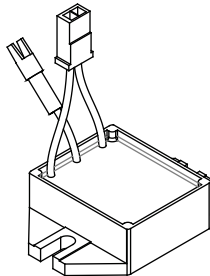
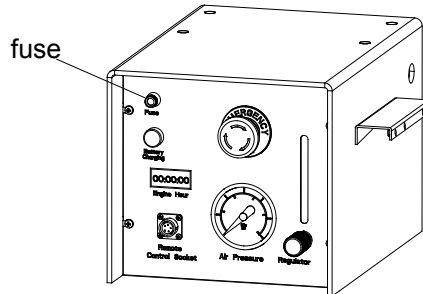

fig. 41
fig. 42
- check if the rectifier (fig. 41) at the engine defective or fuse (fig. 42) blow